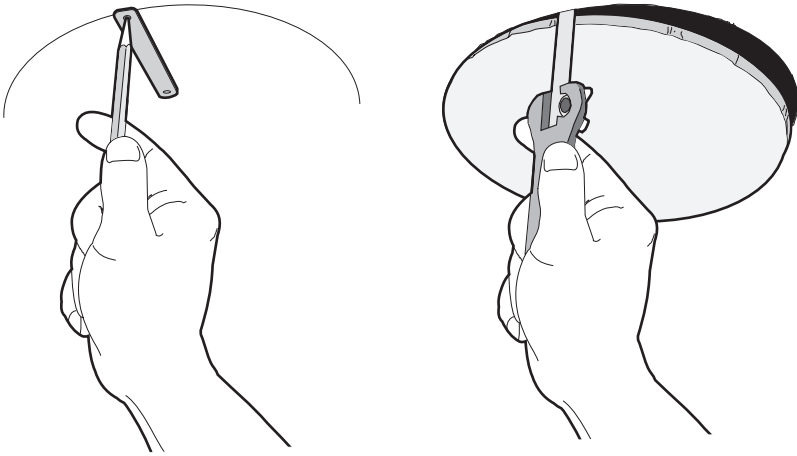

Figure 1. Preparing the Ceiling
1. Prepare the ceiling (refer to Figure 1):
1. Prepare the ceiling (refer to Figure 1 on page 8):